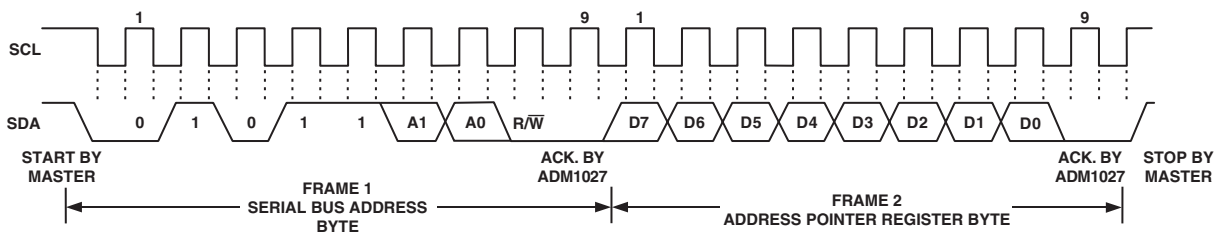

Figure 7. Writing to the Address Pointer Register Only
1. If the ADM1027's Address Pointer Register value is unknown or not the desired value, it is first necessary to set it to the correct value before data can be read from the desired data register. This is done by performing a write to the ADM1027 as before, but only sending the data byte containing the register address, as data is not to be written to the register. This is shown in Figure 7.
2. If the Address Pointer Register is known to be already at the desired address, data can be read from the corresponding data register without first writing to the Address Pointer Register, so Figure 7 can be omitted.